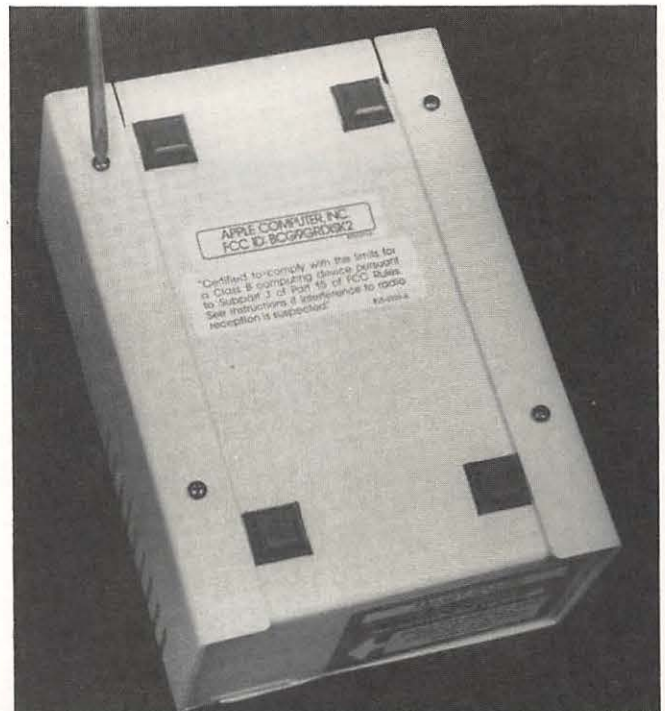

Fig. 8-12. Remove the black screws holding the disk drive cover on the drive mechanism.
7. Remove the four black Phillips head screws holding the cover tight, as shown in Fig. 8-12.